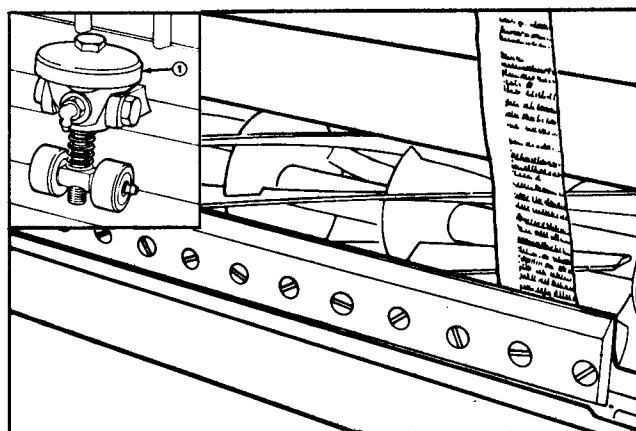

Figure 11
2. On right-hand end of reel, insert a long strip of newspaper between the reel and bedknife. While slowly rotating reel forward, turn bedknife adjusting knob (Fig. 11) clockwise, one click at a time, until paper is pinched lightly resulting in a slight drag when paper is pulled.